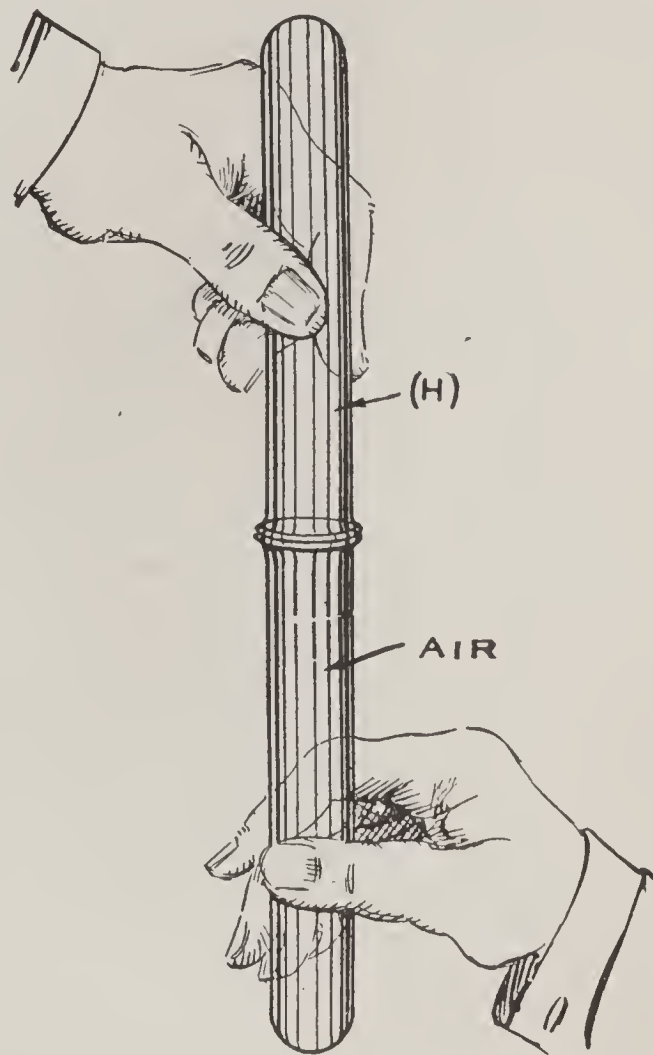

FIG. 80.—The Diffusion of Hydrogen.
The Diffusion of Hydrogen. Take two test tubes and fill one with hydrogen (H) and, of course, hold it with its mouth down to keep the hydrogen (H) in. Hold another test tube with air in it with its mouth up and place the tubes together, as shown in Fig. 80. Since air is so much heavier than hydrogen (H), it would seem that they would remain separated in their respective tubes, but such, however, is not at all the case; after a little while the hydrogen (H) sinks into the air just as though gravity were pulling